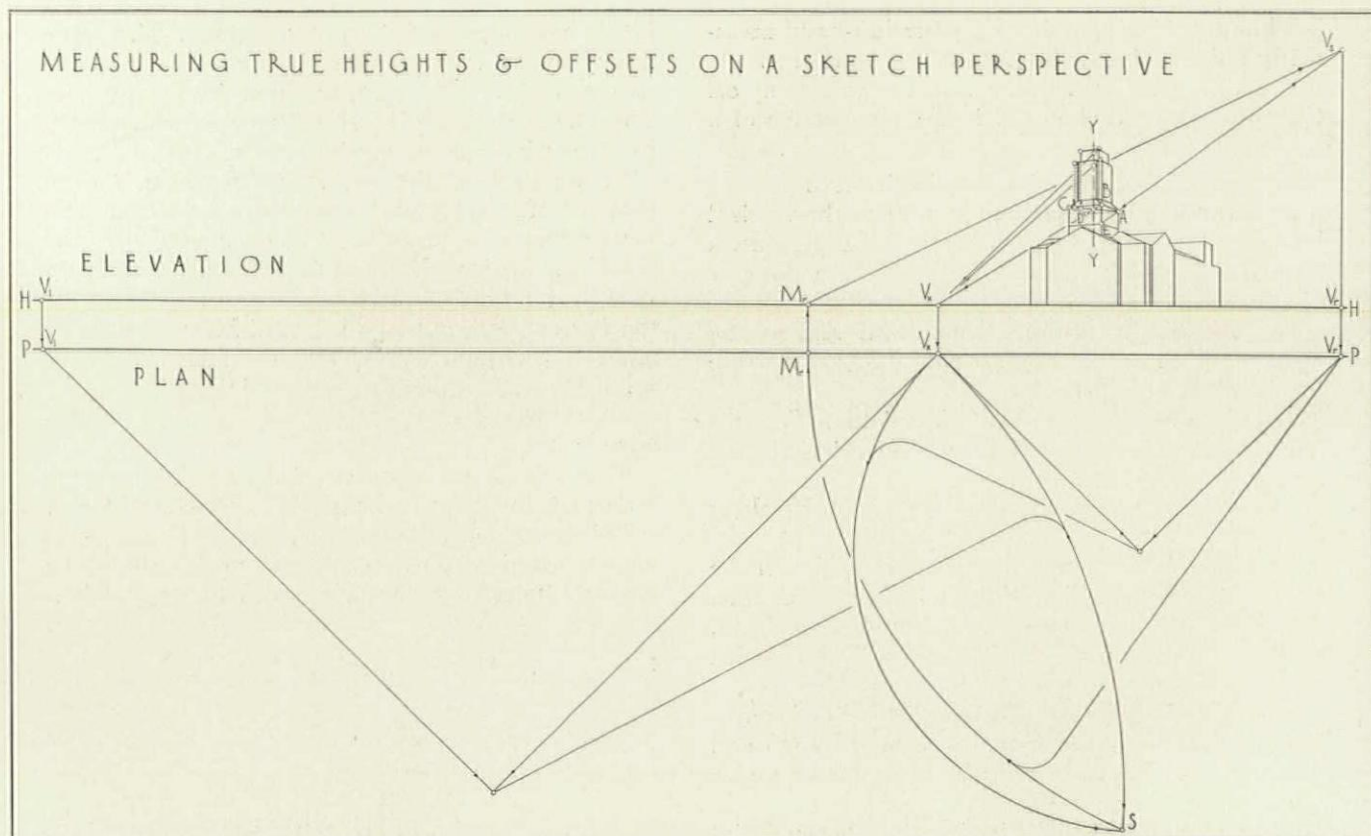

Figure 10—Measuring True Heights and Offsets on a Sketch Perspective
2. *The Relative Heights of the Blocks* (Fig. 10).
The next step corresponds closely to step IV above (Fig. 4): finding the true proportions of the right-hand face (Fig. 10).